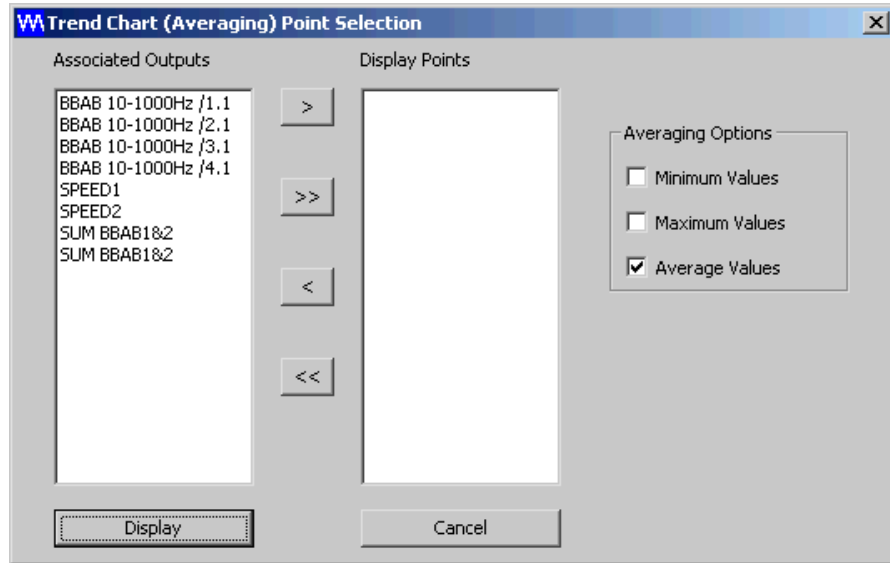

Figure 8-8: Trend Chart (Averaging) Point Selection window
- 2- Select the **Historic Trend Chart (Averages)** command from the **Machine** drop-down menu. The Trend Chart (Averaging) Point Selection window appears (Figure 8-8).